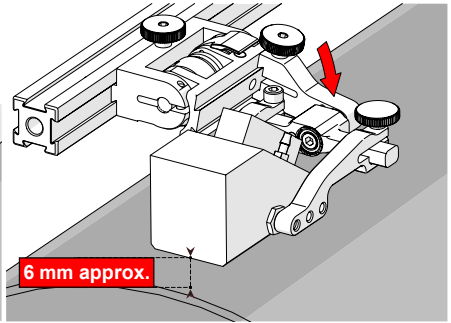

Fig. 52 - Lower to scanning surface
2. Push the probe holder yoke down toward the inspection surface until the wedge is approximately 6 mm ($\frac{1}{4}$ in) above the inspection surface (*Fig. 52*).